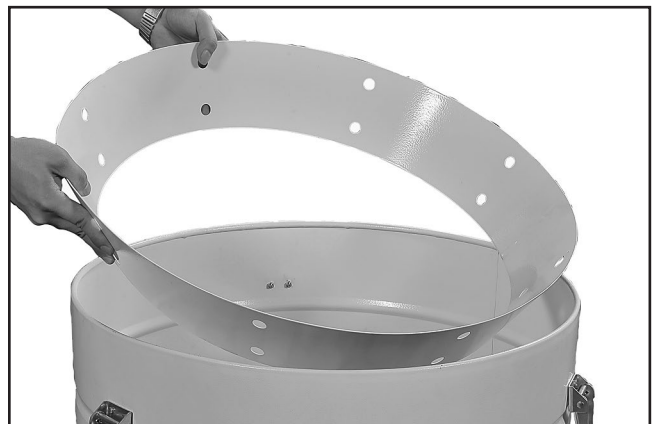

Figure 27. Inserting collection drum vacuum ring.
- Place the collection drum vacuum ring on the bottom of the collection drum (see **Figure 27**).